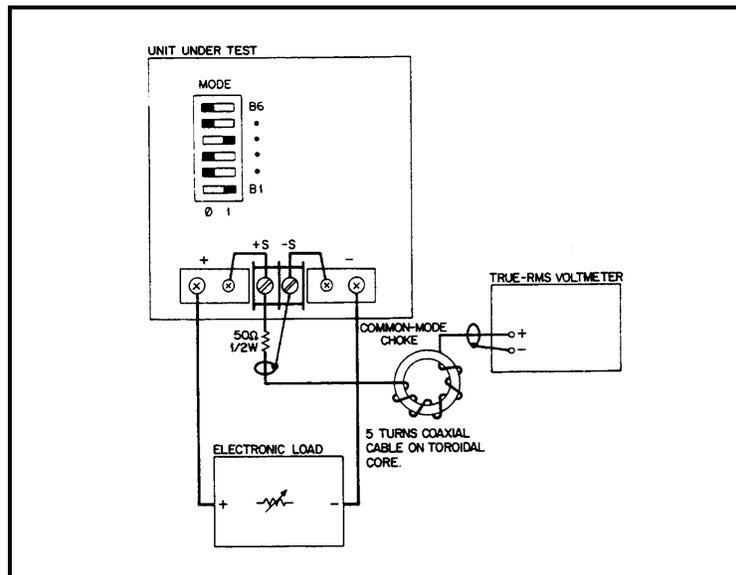

Figure 2-4. RMS Measurement Test Setup, CV PARD Test
RMS Measurement Procedure. Figure 2-4 shows the interconnections of equipment to measure PARD in V_{rms} . To ensure that there is no voltage difference between the voltmeter's case and the unit's case, connect both to the same ac power outlet or check that the two ac power outlets used have the same earth-ground connection.
- a. Connect the test equipment as shown in Figure 2-4. Operate the load in constant resistance mode (Amps/Volt) and set resistance to maximum.